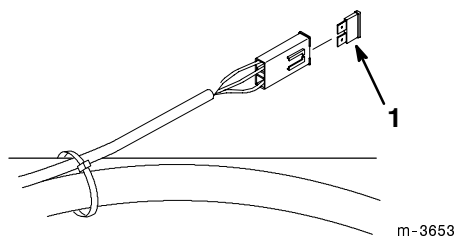

Figure 41
Fuse: Main F1-20 amp, blade-type (Fig. 41)
1. Raise the seat to gain access to fuse holder (Fig. 41).
2. To replace fuses pull out on the fuse to remove it (Fig. 41).